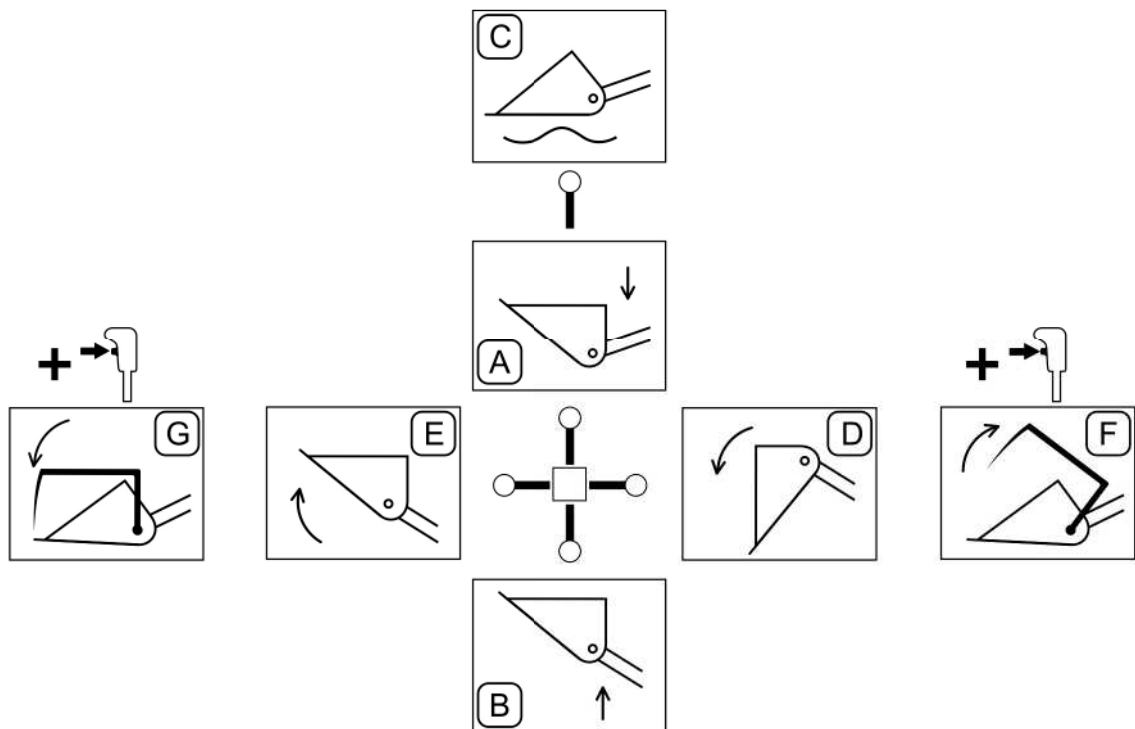

FIG. 4.24A Loader control diagram
On above diagram (FIG. 4.24A) is shown method of operating loader with lever. Position (F) and (G) is applied with settings equipped with hydraulic systems (e.g. manure grab, bale grab, silage cutter etc.) connected from front to loader quick coupler. To open working